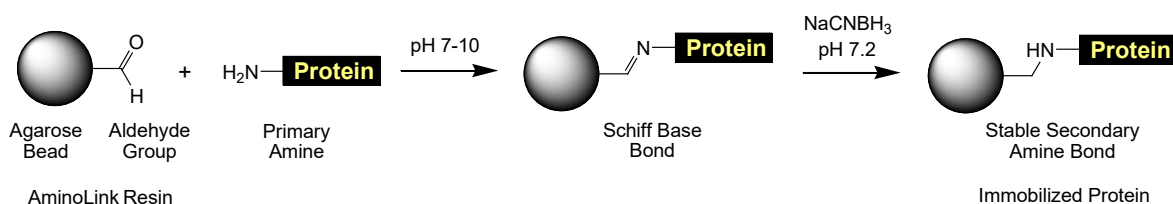

Figure 1. General structure and reaction scheme for AminoLink Plus Resin.
The AminoLink Plus Resin contains aldehyde groups that react specifically with primary amines (-NH₂), which occur on the surface of proteins in the side chains of lysine (K) residues and the N-terminus of each polypeptide. After the spontaneous formation of semi-stable Schiff base bonds, reduction with sodium cyanoborohydride results in stable secondary amine bonds (Figure 1). Antibodies, antigens and other proteins having different molecular weights and isoelectric points couple to AminoLink Resin with an average coupling efficiency greater than 80%.